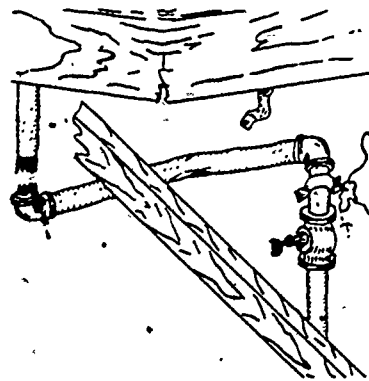

Figure 65. Defective Pipe and Fittings
**PIPING.** Stopping leaks in piping and fittings may be a relatively simple operation. Items such as union, hose bibb faucets, and eaps require a simple tightening or resoldering of the connection. More drastic measures are required if tightening the joint doesn't solve the problem. Figure 65 illustrates extensive damage that will require complete replacement.